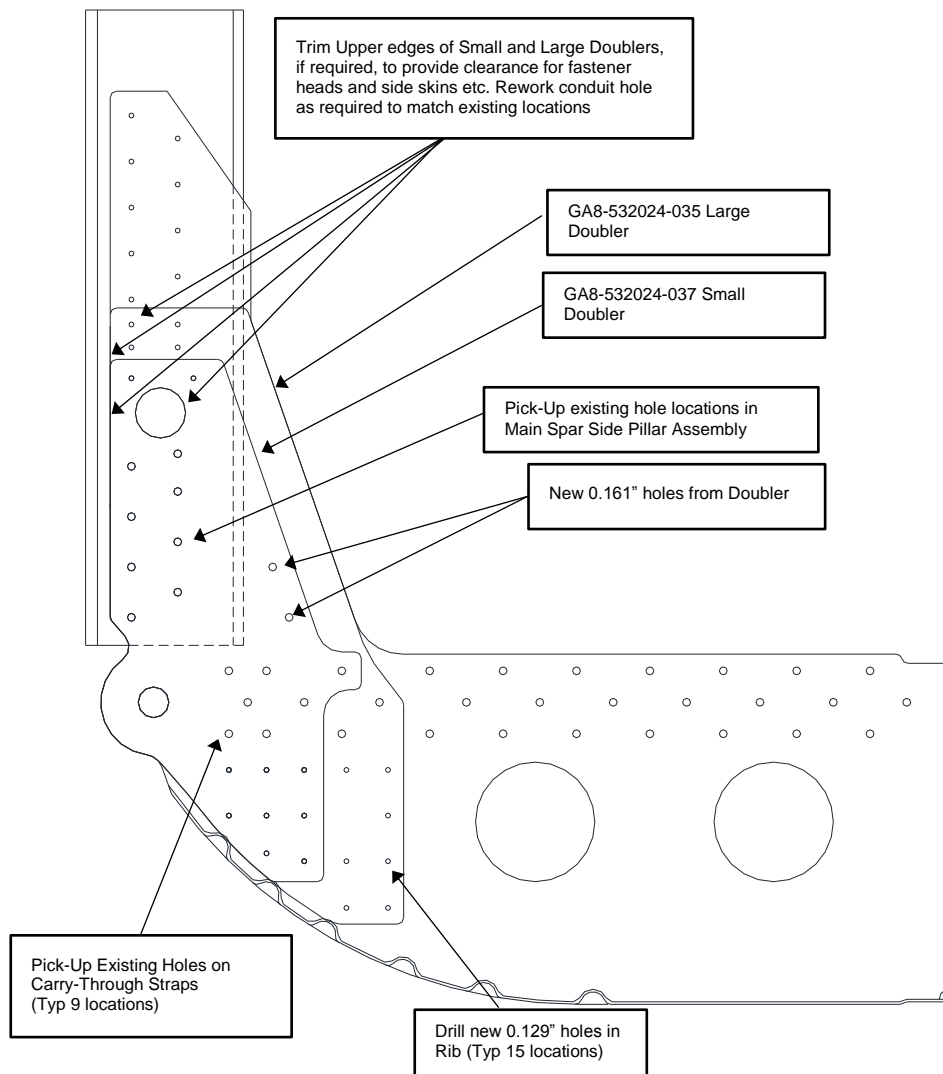

Figure 40: Typical installation of Large and Small Doublers
- 5) Match drill holes to the replacement Ribs #5 and #6 at existing locations in the Carry-Through Straps, Main Side Spar Pillar Assembly, Keel and Belly Skin (See Figure 40). De-burr all new holes.
- 9) Position the Large Doubler on replacement Rib #5 or #6 (See Figure 40) and temporarily install the wing strut attachment bolt to ensure the lug bore of the doublers are concentric with the Rib and Carry-Through Straps and clamp the doubler in position.
- 12) Drill new holes using a #20 drill, to a diameter of 0.161", into the replacement Ribs #5 and #6 using the pilot hole locations of the Large Doublers which exist above the floor skin water-line (See Figure 40).
- 13) Drill 15 new holes, using a #30 drill, to a diameter of 0.129", through the lower web of the replacement Rib #5 and #6 using the pilot hole locations in the Large Doublers below the floor skin water-line (See Figure 40).
- 1) Position the replacement Rib and the Small and Large Doublers in place (See Figure 40). Place the Spacer, from Part 5-N, between the Carry-Through Straps so that the Wing Strut attachment bolt may pass through the Spacer.
- 3) Verify adequate clearance is provided from adjacent structure including: the Floor Attach Angle, Cabin Side-Wall Skins (See Figure 40). Ensure that the Large Doubler inboard vertical edge does not project beyond the Rib #5 and #6 inboard edge profile. If adequate clearance exists with Large and Small Doublers in position then proceed to Step (10) otherwise continue with Steps (4) through (9) as necessary.
- 4) Trim, if required, the outboard end of Floor Attach Angle to ensure clearance from the Large and Small Doublers (See Figure 40).
- 5) Trim, if required, the upper edges of the Large and Small Doublers to ensure adequate structural clearance from the Cabin Side-Wall Skins and to avoid fouling on any rivet heads (See Figure 40).
- 6) Trim, if required, the penetration holes in the Large and Small Doublers to provide clearance for the aileron cable conduit penetration (See Figure 40).
- 13) Install three MS20470AD5 rivets through the Floor Attach Angle, Rib #5 and #6, Carry-Through Straps and the Large and Small Doublers (rivet grip length to be verified on installation) (See Figure 40).
- 14) Install quantity of four MS20470AD5 rivets through the Large and Small Doublers, Rib #5 and #6 and the Carry-Through Straps (rivet grip length to be verified on installation) (See Figure 40).
- 15) Install quantity of four MS20470AD5 rivets through the Large and Small Doublers, Rib #5 and #6 and the Carry-Through Straps (rivet grip length to be verified on installation) (See Figure 40).
- 18) Install quantity of two MS20470AD5 rivets through the Large Doubler, Rib #5 and #6 and the Carry-Through Straps (rivet grip length to be verified on installation) (See Figure 40).
- 19) Install quantity of fifteen MS20470AD4 rivets through the lower web of Rib 5 and 6 and the Large and Small Doublers (rivet grip length to be verified on installation) (See Figure 40).